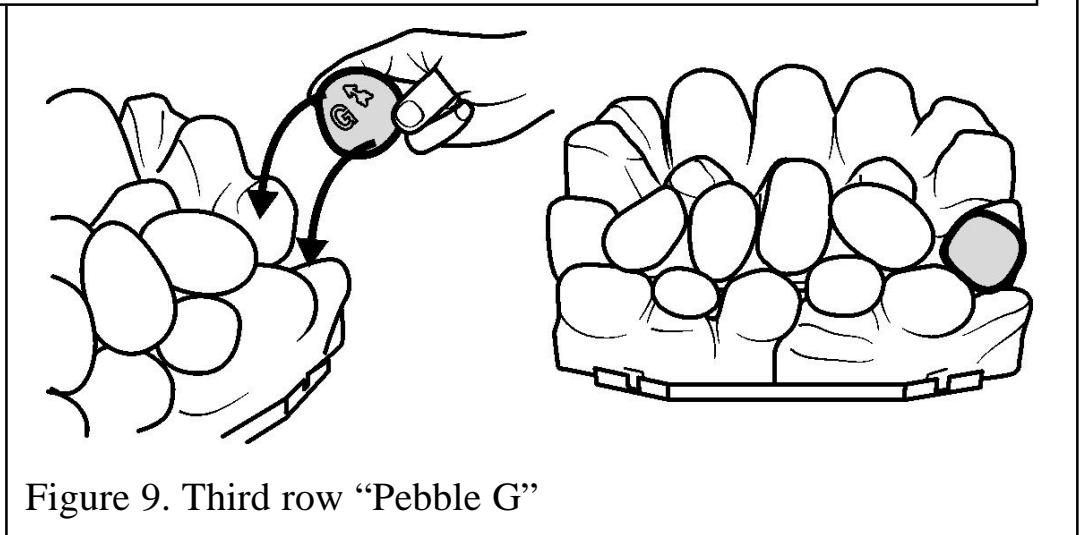

Figure 9. Third row "Pebble G"
11. Hold pebble 'G' upright with the arrow pointing to the top. Locate pebble 'G' as shown in figure 9.